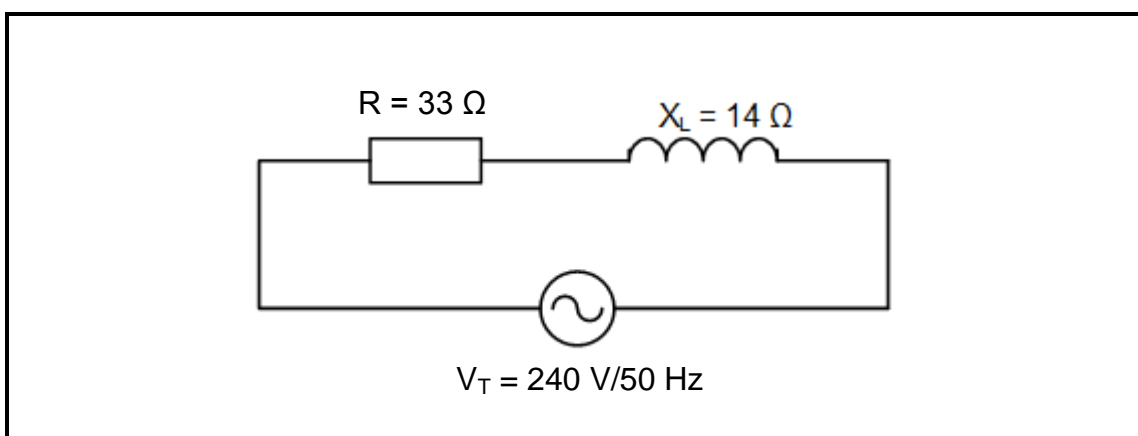

FIGURE 5.2: SERIES RL CIRCUIT
5.2 FIGURE 5.2 below shows a series RL circuit. Draw the phasor diagram that represents the circuit.